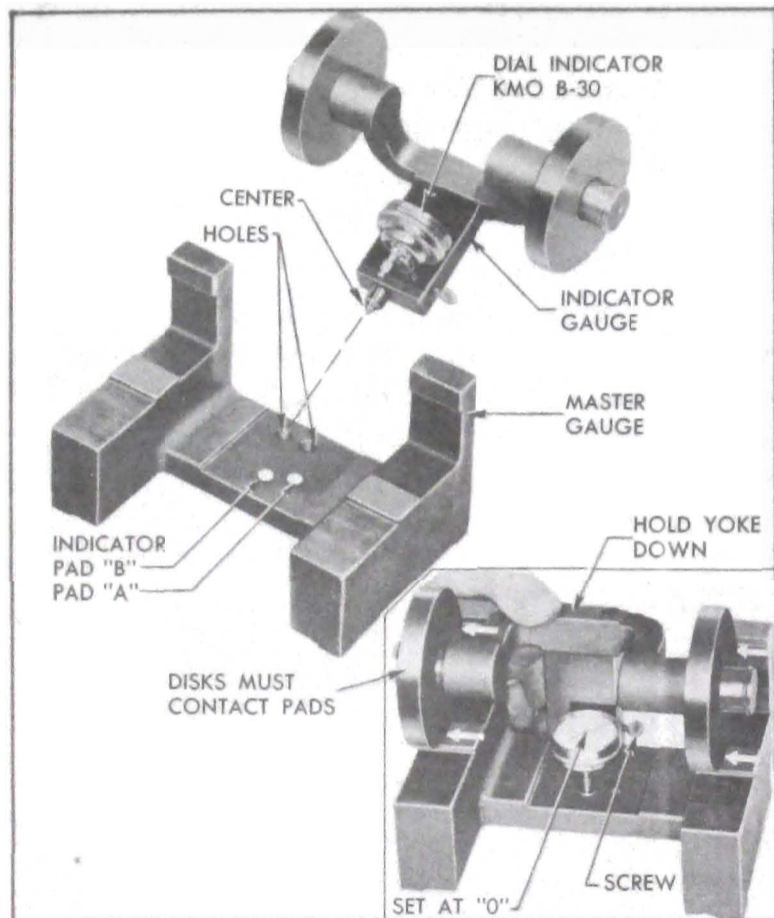

Figure 6-20—Pinion Setting Gauge J 5647
Pinion Setting Gauge J 5647 consists of a "master gauge" and an "indicator gauge" upon which Dial Indicator KMO 30-B is mounted. See figure 6-20.
2. Install the small contact button on stem of Dial Indicator KMO 30-B and mount the dial indicator on the indicator gauge. See figure 6-20.